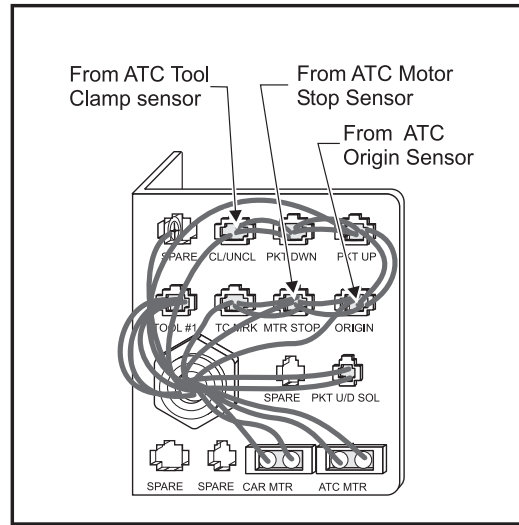

Figure 3.12-17 Proximity Switch Connection Bracket.
2. Screw two nuts to the threaded section of the proximity switch. Snug the two nuts together and apply thread sealant to the threads. Carefully screw the switch into the cam box. Connect the proximity switch connector to the plug on the switch bracket. Refer to Figure 3.12-17.